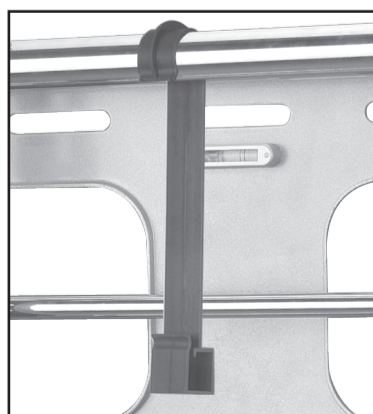

Fig. 2 - Attach the cable manager to the top crossbar.
7. Attach the cable manager to the middle of the top crossbar (Fig. 2).